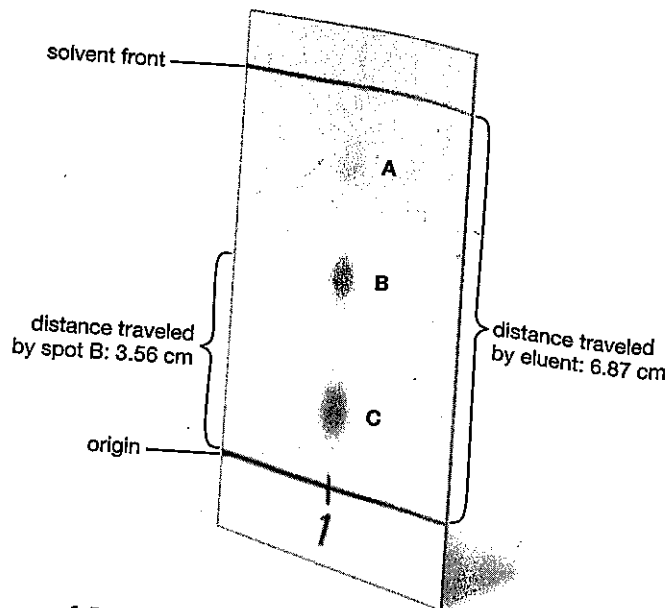

FIGURE 12.4 Important features of a TLC plate with effective separation of the compounds in hypothetical sample 1.
The TLC plate in Figure 12.4 is an example of an effective separation of the constituent compounds in the hypothetical sample labeled 1. In a TLC experiment, it is important to use a pencil to mark the starting line, or **origin**, where the sample was first spotted. It is also necessary to mark the farthest distance traveled by the mobile phase immediately after removing the plate from the chamber before all the solvent evaporates. The line demarcating the farthest edge of the mobile phase from the bottom of the plate is called the **solvent front**. Finally, any visible spots in the sample should be circled with a pencil as soon as the plate dries because spots may fade over time. Many compounds are not colored and will not be visible to the naked eye on the TLC plate. Most modern TLC plates are coated with a compound that fluoresces when exposed to ultraviolet (UV) light. Any sample compounds present on the plate mask the fluorescence from this compound, resulting in a dark spot where the sample is located.
To quantify the distances traveled by each compound on the TLC plate, the distance from the origin to the center of each spot is measured with a ruler. Similarly, the distance from the origin to the solvent front is also measured. The distance traveled by each compound is reported as the **retention factor ( $R_f$ )**, which is calculated as shown in Equation 1. For example, the  $R_f$  for spot B in Figure 12.4 would be 0.518.